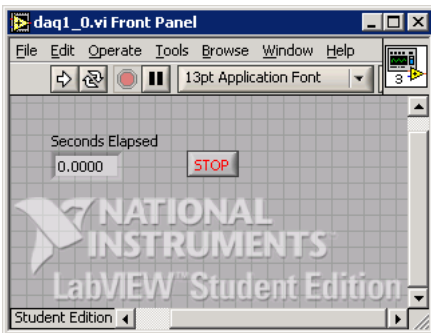
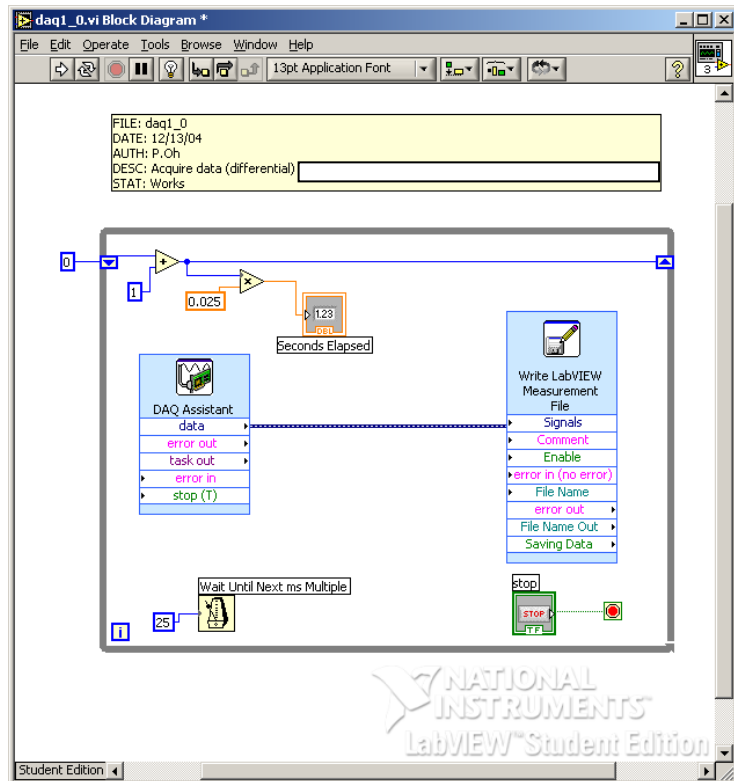

Figure 4A: Data Recorder front panel
Figure 4B: Data Recorder block diagram
Step 1: A very simple front panel is needed because all acquired data will be recorded into a file on your hard drive. This file will be read and plotted with Excel. Create the front panel shown in Figure 4A. Use a `while-loop` control to create the block diagram (Figure 4B).